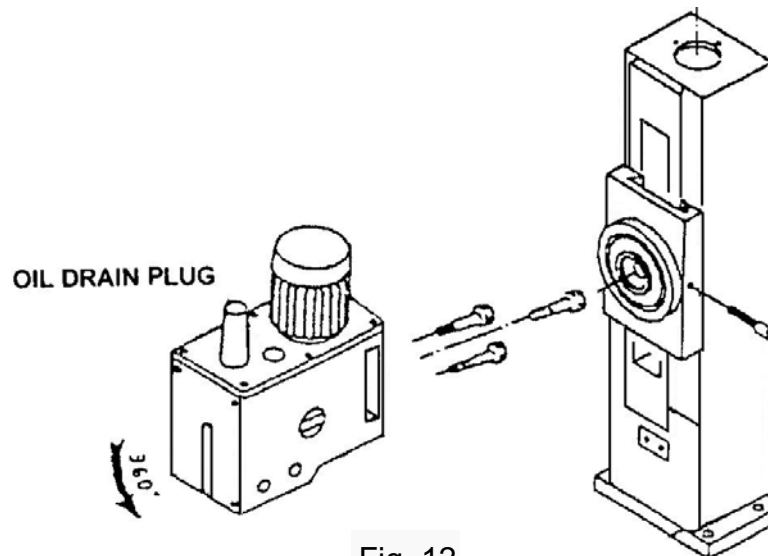

Fig. 12
- (b) Unscrew 3 nuts while the workpiece needs to be bevel turn to the degrees you wish on the scale ,then screw the 3. see Fig. 12.